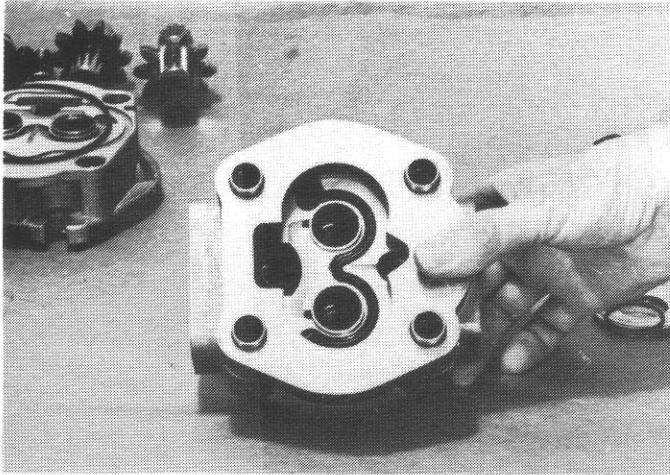

Fig. 16
20. Install back-up ring (4) and o-ring (5) as shown in figure 16.